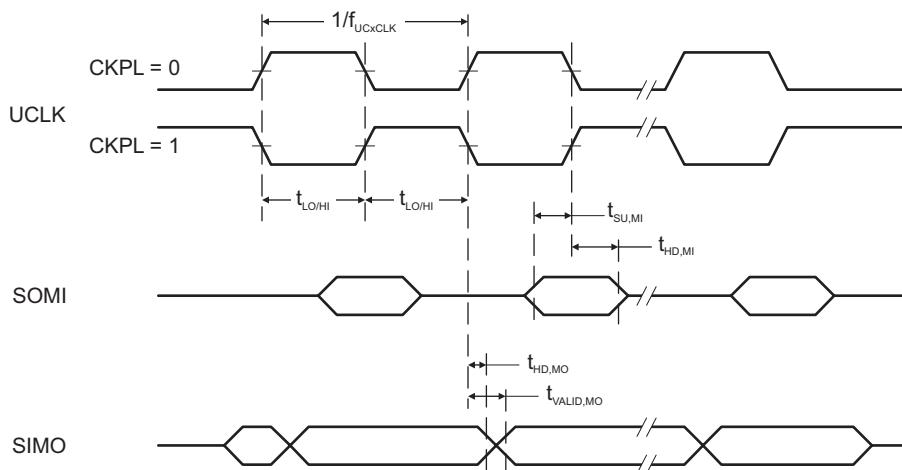
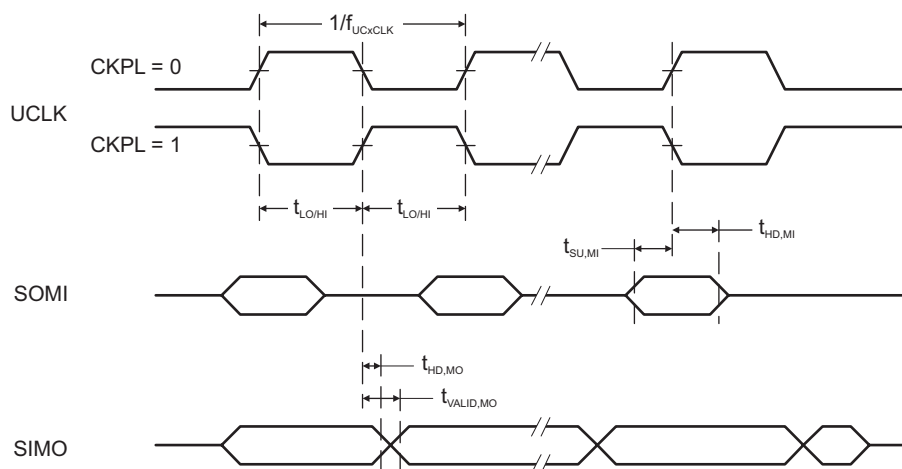

Figure 5-16. SPI Master Mode, CKPH = 0
Figure 5-17. SPI Master Mode, CKPH = 1
over recommended ranges of supply voltage and operating free-air temperature (unless otherwise noted)⁽¹⁾ (see Figure 5-16 and Figure 5-17)
- (2) Specifies the time to drive the next valid data to the SIMO output after the output changing UCLK clock edge. See the timing diagrams in Figure 5-16 and Figure 5-17.
- (3) Specifies how long data on the SIMO output is valid after the output changing UCLK clock edge. Negative values indicate that the data on the SIMO output can become invalid before the output changing clock edge observed on UCLK. See the timing diagrams in Figure 5-16 and Figure 5-17.